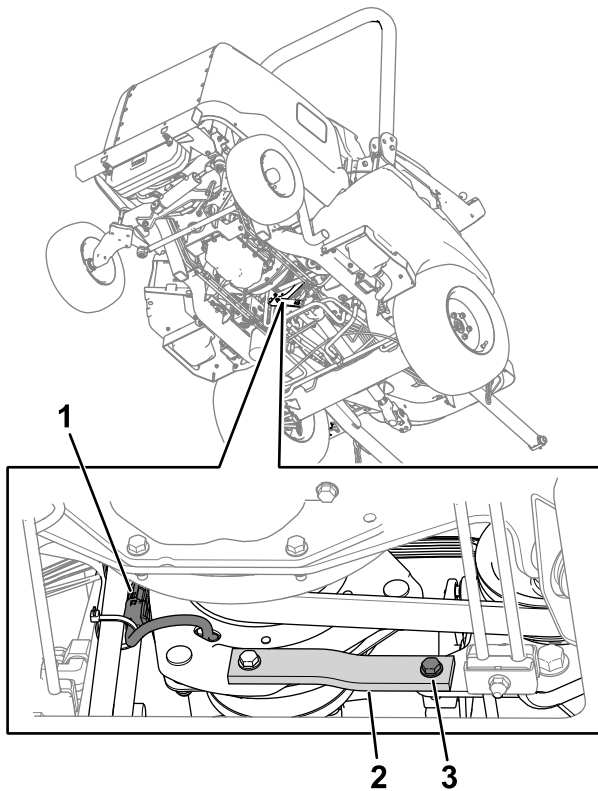

Figure 79
2. Unplug the clutch-wire-harness connector from the machine wire harness (Figure 79).
3. Remove the bolt, washer, and nut from the rubber strap (Figure 79) on the frame.